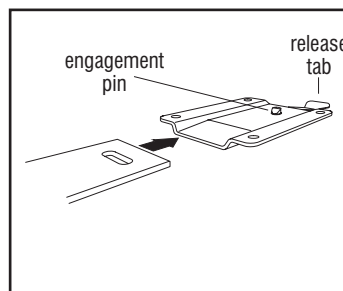

**Figure 2**
2. Fasten “L” hangers to the modesty panel using two #10 x 3/4" screws, not to exceed 25 in/lbs of torque. (Figure 2).